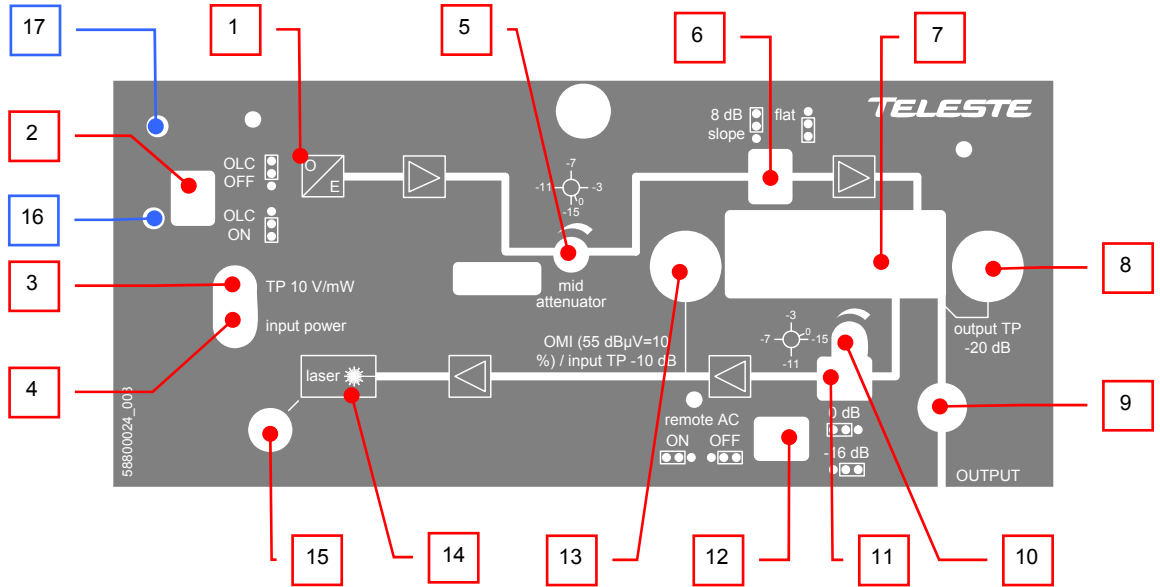

Figure 4. CXE880 front panel
The supply voltage of the remote powered amplifier (26...65 V AC or $\pm 30...90$ V DC) can be fed through the RF output port (Figure 4 pos. 9). Make sure the remote powering jumper (Figure 4 pos. 12) is in correct position for remote powering. Refer to Figure 4. External power can also be fed through the amplifier into the network by moving remote powering jumper to "ON" position. Maximum feed-through current is 2 A.
When equipped with an optional status monitoring card the node continuously monitors internal temperature, local and remote supply voltages, optical input power, laser current, lid status and statistics of power failures. Measurement results and status information is transmitted using 10.7 MHz FSK data link to e.g. HDO203 data receiver. The two first mentioned parameter statuses are also indicated with the LED indicator (Figure 4 pos. 17). The following table further describes behaviour of the LED. During the power-up sequence the LED will display yellow light for a short period of time to indicate that the LED is functional. The LED blinking indicates that packets are sent on the FSK link.
Return path attenuation mode jumper (Fig. 4 pos. 11)
Remote powering jumper (Fig. 4 pos. 12)
Optical input power can be measured from the optical power DC voltage test point (Figure 4 pos. 4). The test point DC voltage is directly proportional to optical input power in mW e.g. 10 V corresponds to 1.0 mW average optical power for 1310 nm. Table below shows the correct measurements at the test point using a 1310 nm or 1550 nm transmitter.
The mainboard provides also a LED indicator (Figure 4 pos. 3) which gives a visual indication of the optical input power.
3. Optical Level Control (OLC) circuitry provides gain control that compensates for changes in input level caused by external variations. The available gain reserve is factory-set for optimum operation. If needed the output level can be adjusted with the midstage attenuator. You can however, set an internal jumper (Figure 4 pos. 2) to disable the OLC. This enables you to operate the CXE880 optical receiver at full gain for applications that do not require gain stabilization.
5. Use the response mode jumper (Figure 4 pos. 6) to select the midstage slope. Available options are "flat" or "8 dB sloped".
A diplex filter (Figure 4 pos. 7) is selected during configuration according to the preferred frequency split.
The return transmitter is aligned in production eliminating the need for any user adjustments. The level of return signal can be measured from the optical transmitter's OMI test point (Figure 4 pos. 13). In shielding cover of the CXE880 is described the fixed RF driving level at the OMI test point that gives 10% OMI. The return signal level should be adjusted to match this level. Table below shows the RF drive levels for different OMIs. The signal level is adjusted with the return path attenuator (Figure 4 pos. 10). The adjustment range is 15 dB. The attenuation can be approximately doubled with the return path attenuation mode jumper (Figure 4 pos. 11). Thus, it is possible to achieve higher attenuation with a maximum amount of 31 dB.
The mainboard provides also a LED indicator (Figure 4 pos. 15) which gives a visual indication of the laser bias current.